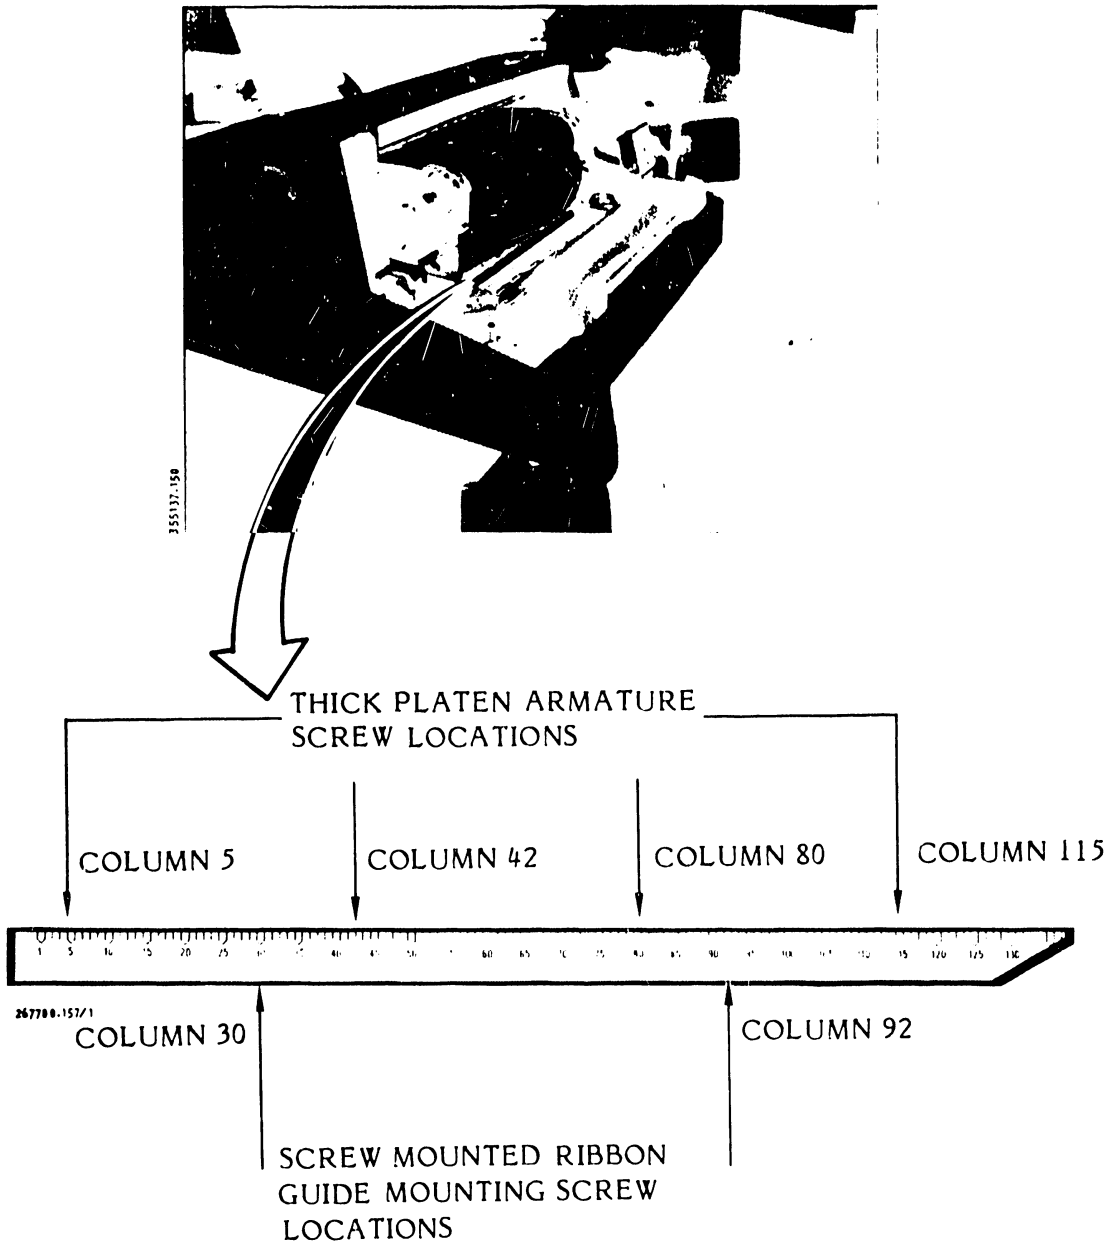

Figure 3-47. Armature and Ribbon Guide Mounting Screw Locations
3.6.7 Paper Clamp Armature Assembly Adjustment (Figures 3-47, 3-48, 3-49)
- g. Find access to the armature mounting screws (see figure 3-47) as follows:
- h. Using a 3 mm hex driver, loosen the four screws which mount the paper clamp armature assembly to the printer frame (see figures 3-47 and 3-48).